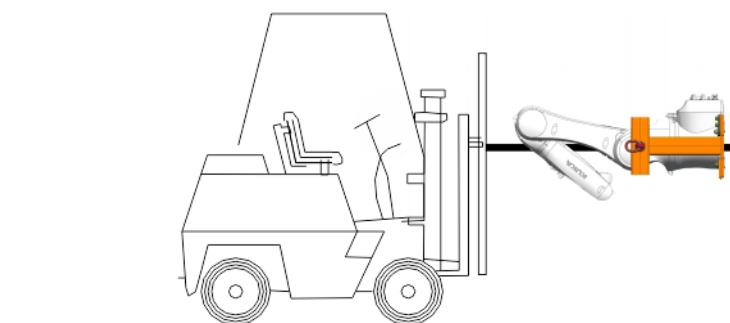

Fig. 8-5: Lifting the Load Lifting Attachment with a fork lift truck
12. Lift the Load Lifting Attachment with a fork lift truck (>>> Fig. 8-5).